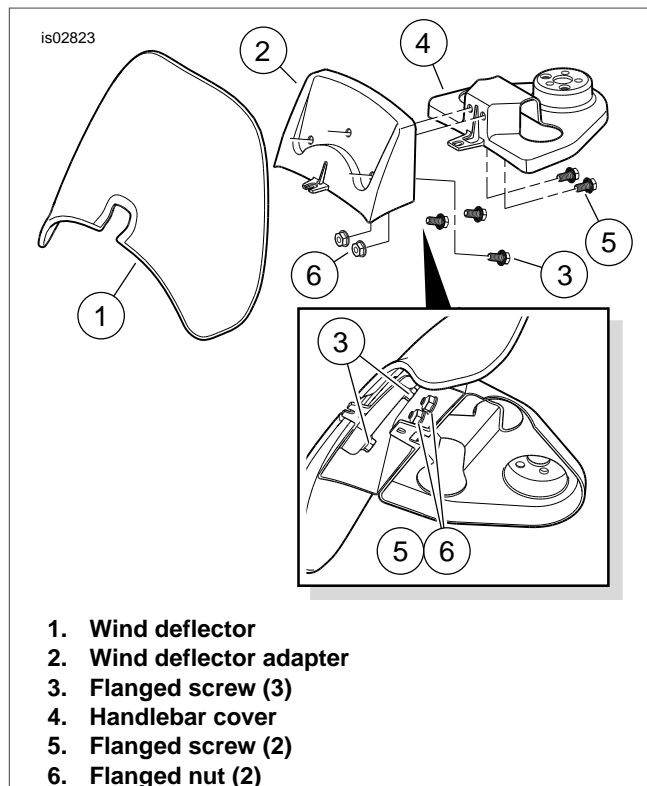

Figure 6. Handlebar Cover/Wind Deflector Assembly (FLHRS)
4. **For FLHRS models**, see Figure 6.
- a. Assemble the saved wind deflector (1) to the **new** adapter (2, purchased separately) using the three flanged screws (3) removed earlier.
- c. Assemble the **new** handlebar cover (4, purchased separately) to the adapter using the two flanged screws (5) and flanged nuts (6) from the adapter kit.
12. Route the left side switch wire bundle through the switch housing similar to that shown in Figure 6 for the right side wiring. Gently feed the wire bundle into the left side switch wire hole.